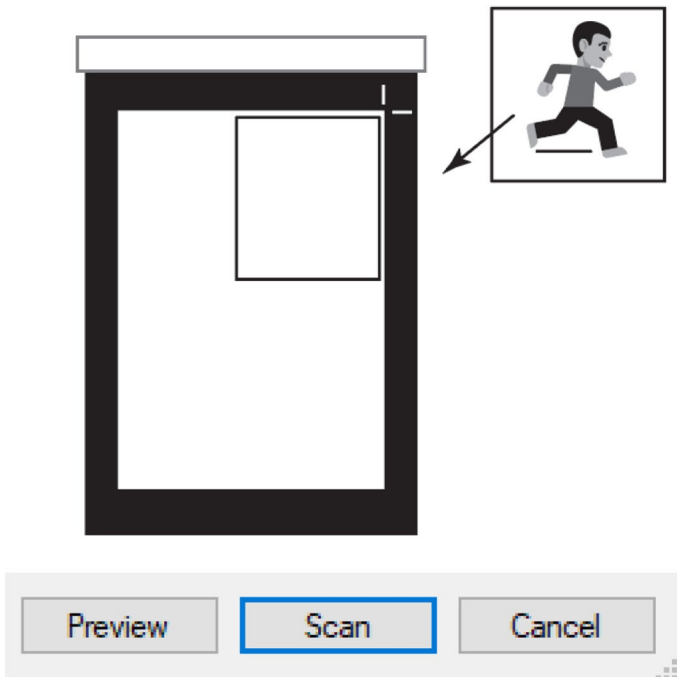

Figure 1-26. Print is placed on the scanner face down, and then the Preview button in the dialog box is clicked to get a preview of the photo
7. I would then place the image I want to scan on the scanner bed face down – in this example, in the upper right hand near the edge – close the lid, and in the Scanner WIA dialog box, click the Preview button. Refer to Figure 1-26.